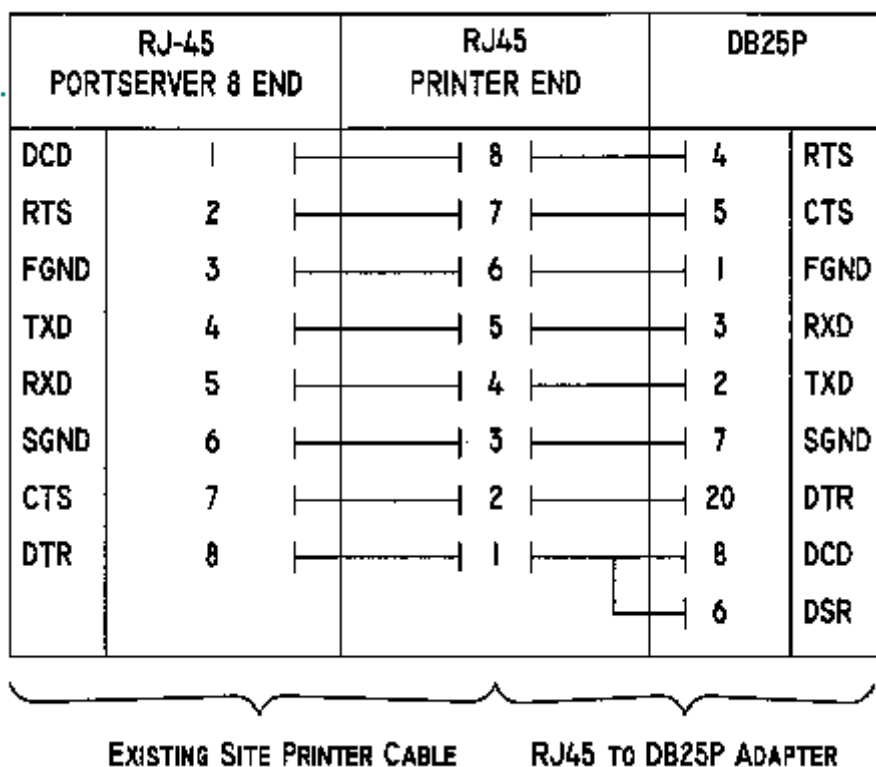

Figure A1. CRS Epson LX-300 Cable Adapter
PARTS REQUIRED : (1) RJ-45 to DB25M cable adapter (see figure A1)